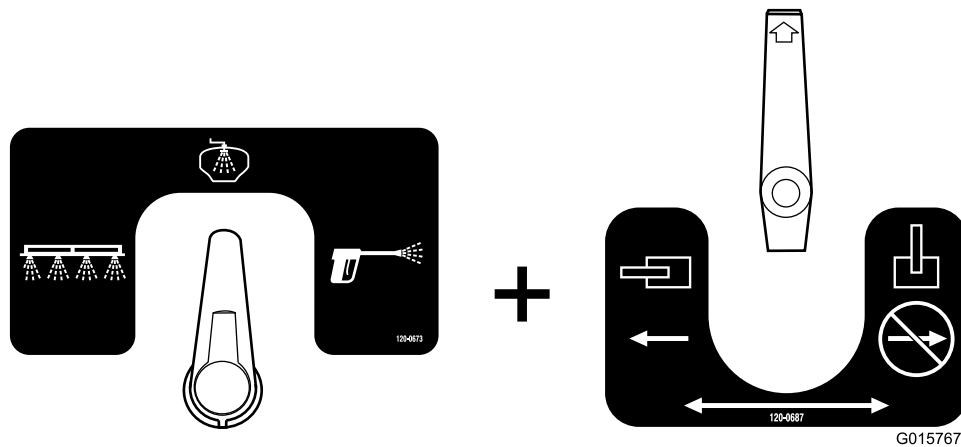

Figure 53
- This is the tank rinsing configuration (Figure 53). Use this configuration to spray rinse water out of the rinse nozzles in the tank.